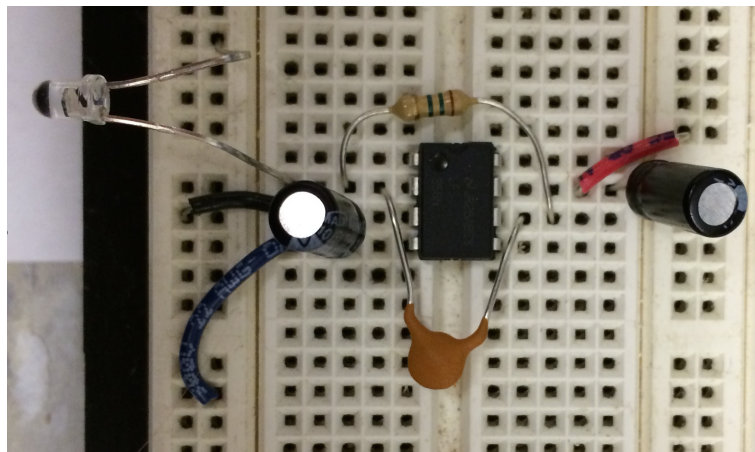

Figure 5: Good placement of op-amp and bypass capacitors on a protoboard. Note that short wires are used for all connections.
2. The op-amp chip sits across a groove in the prototyping board (see Figure 5). Before inserting a chip, ensure the pins are straight (using a needle-nose pliers or something similar). After insertion, check visually that no pin is broken or bent under the chip. To remove the chip, use a small screwdriver in the groove to pry it out.
3. You will have less trouble with spontaneous oscillations if the circuit layout is neat and compact, in particular the feedback path should be as short as possible to reduce unwanted capacitive coupling (see Figure 5). Also, wire around the chip rather than over it.